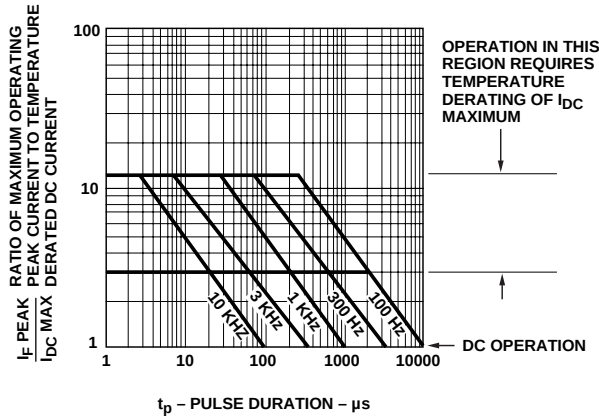

Figure 6. Allowable Peak Current vs. Pulse Duration – Green.
7. See Figure 6 to establish pulsed ocnditions.